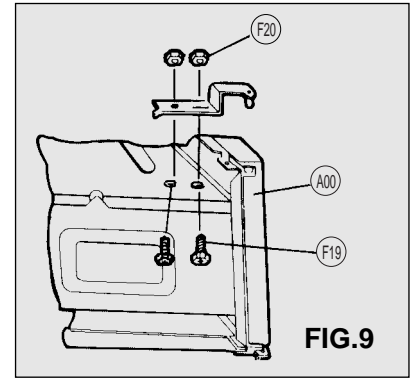

FIG.9
7. To remove door assembly (Refer to Fig. 9)